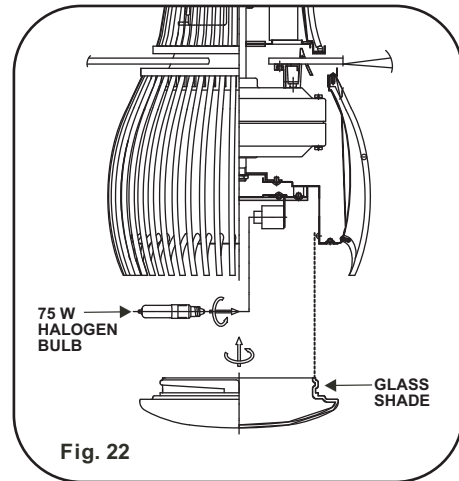

Fig. 22
1. Install 1 x 75W halogen bulb (included) into bulb sockets. (Fig. 22)
2. Raise glass shade up against bottom of fan housing and secure it to the fan by turning the glass shade clockwise until snug. **DO NOT OVERTIGHTEN.** (Fig. 22)